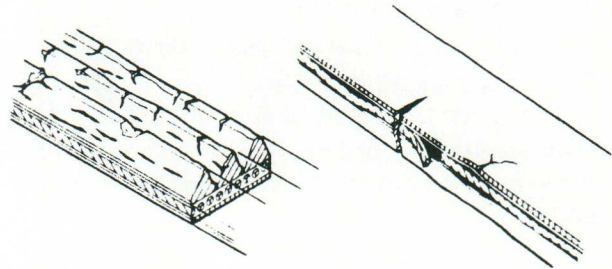

Figure 241-2
1. Visually check the belt for separation of adhesive rubber above and below the core. Also check for core separation from the belt side, severed core, separation of the rib from the adhesive rubber, cracking or separation of the ribs, torn or worn ribs and cracks in the inner ridges of the ribs (Figure 241-2). If necessary, replace the drive belt.